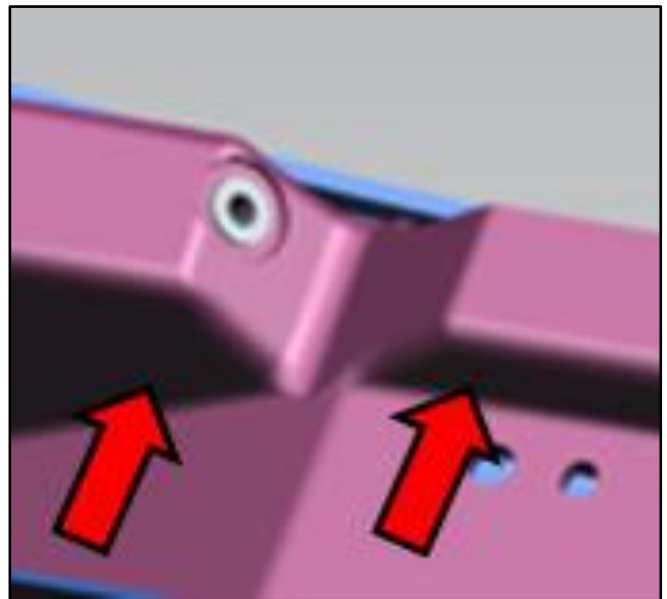

Figure 4
9. Clean the surfaces of the rear bumper that the plastic part from step 5 is to be attached to. (Refer to Figure 4.)